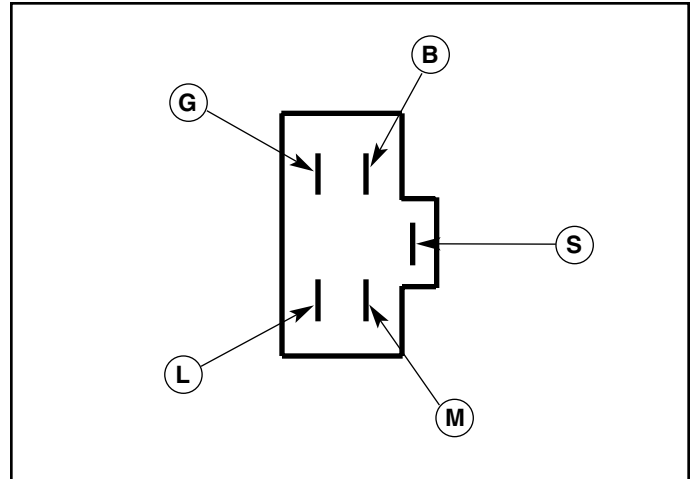

**Figure 8. Testing the Circuit Breaker**
5. See Figure 8. Probe both circuit breaker terminals. If the VOM reads 5 Ohms or more, replace the circuit breaker.